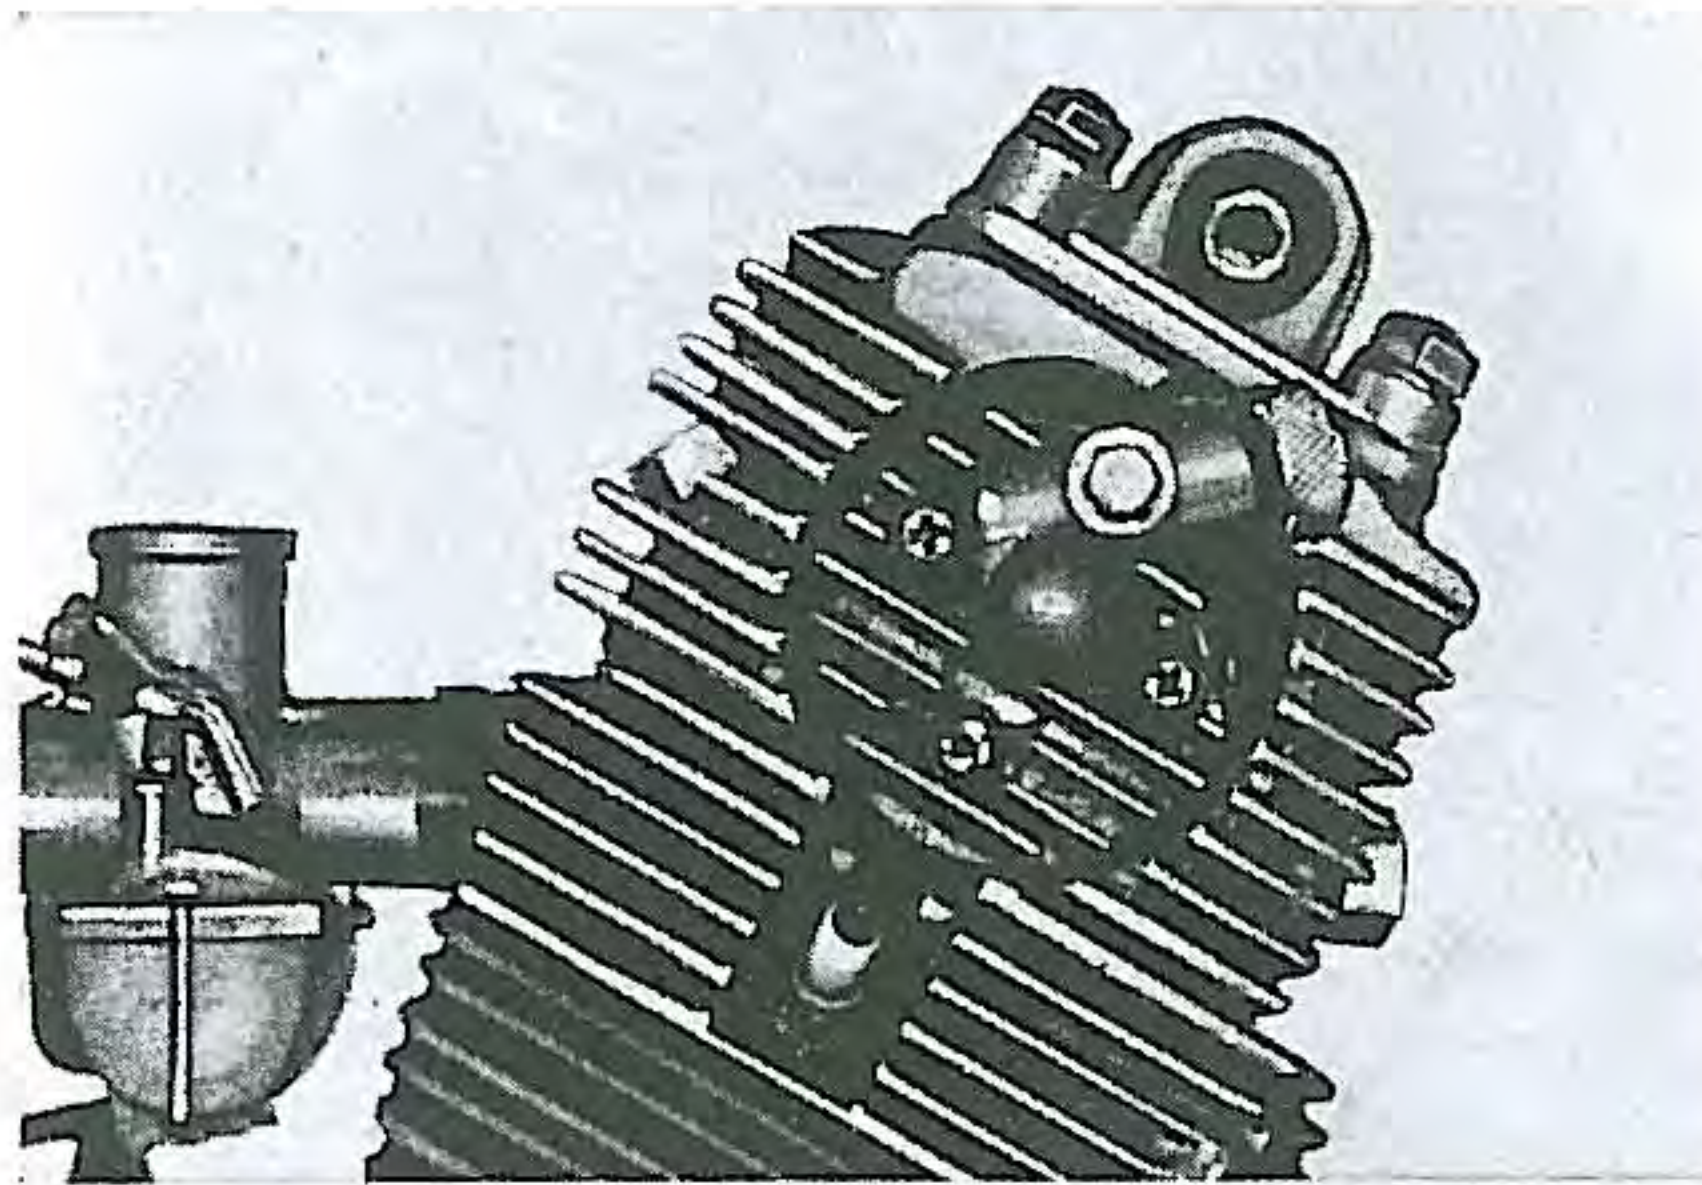

Fig. 31. Location of tachometer gear box
- (9) The procedure for removing cylinder head should be accomplished as follows. (Fig. 31)
For the CB92 and CA95 engines with tachometer drive gear: Remove the tachometer gear box cap and gear bushing retaining bolt. Pry out the oil seal located on the entrance, with a driver. Then withdraw the bushing and gear shaft. (Fig. 31, 32)